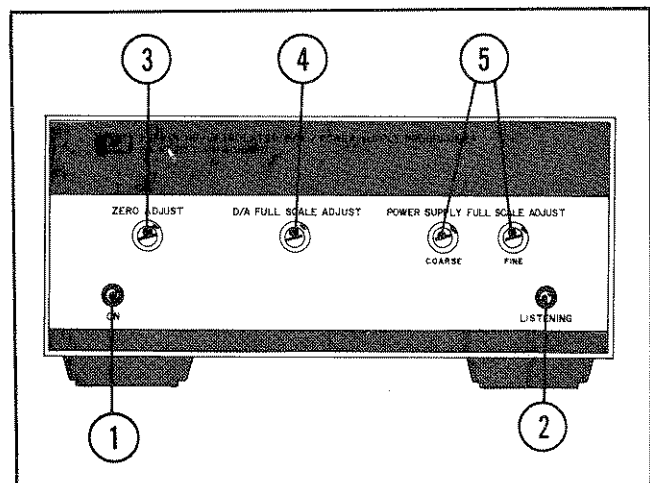

Figure 3-1. 59501A Front Panel
3-7 The 59501A front panel contains a power on indicator, a status indicator and four controls (screwdriver adjustments) as shown in Figure 3-1.
3-8 The power on (ON) indicator ① (Figure 3-1) lights and the 59501A's internal supply voltages (+15V, $\pm 15V$, V_{dd}) are present when the line cord is plugged-in.